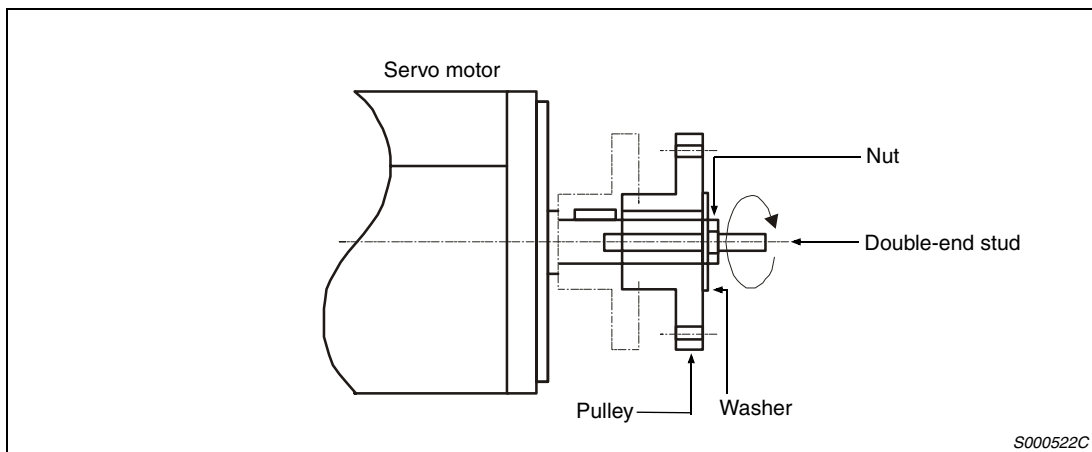

Fig. 2-3: Installing a pulley
- When mounting a pulley to the servo motor shaft provided with a keyway, use the screw hole in the shaft end (refer fig. 2-3). To fit the pulley, first insert a double-end stud into the screw hole of the shaft, put a washer against the end face of the coupling, and insert and tighten a nut to force the pulley in. Under no circumstances must you use a hammer for installation work on the servo motor shaft.